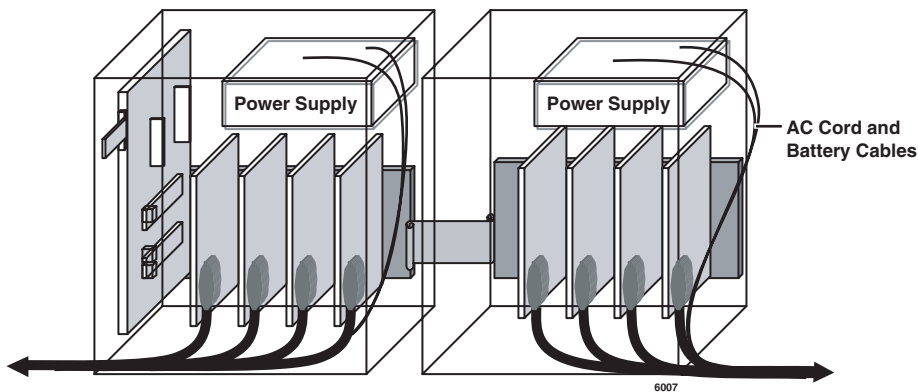

Figure 3-21 Opposite Direction Cable Routing
- Opposite Direction Cable Routing** – Cabling from the Expansion Cabinet can run through the right and left sides (see Figure 3-21).